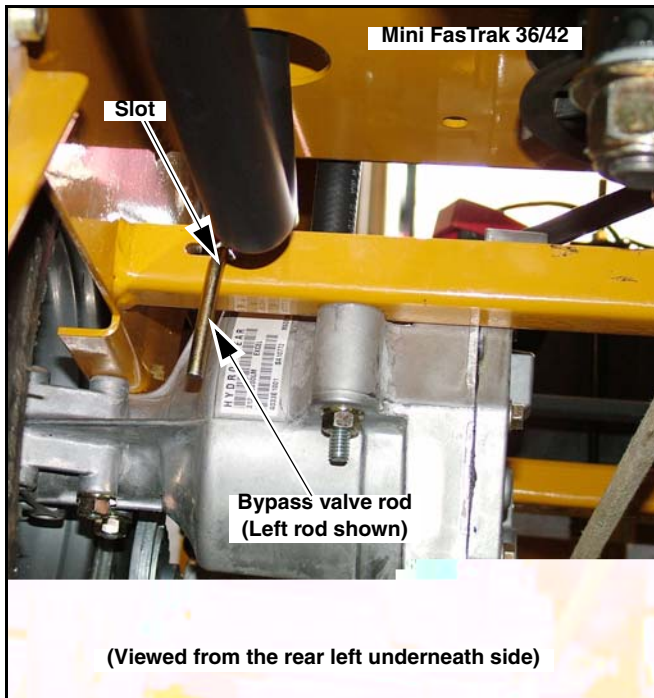

Figure 3-5
**Mini FasTrak 36/42** - Before moving the unit, pull out on the bypass valve rods and slide them into the slot to lock in position. Both bypass valve rods are located underneath the rear of the tractor at the back of the transaxle. (Fig. 3-5)